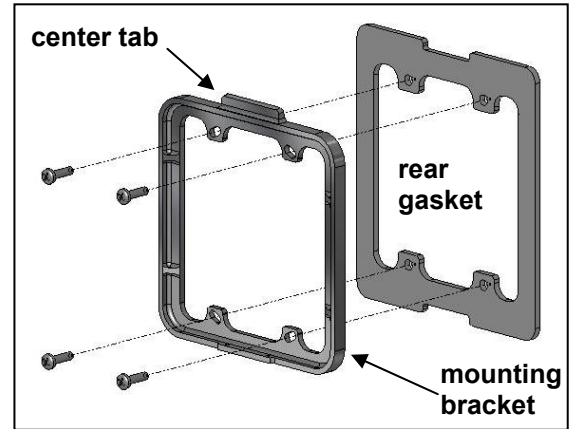

Figure 8
**NOTE:** Make sure that the included weather proofing gasket is placed as shown in *Figure 8*.
- As shown in *Figure 8*, the first step to installing the Selective Call Door Unit is to place the included rear gasket against the gang or back box, and secure the gasket in place with the included mounting bracket.